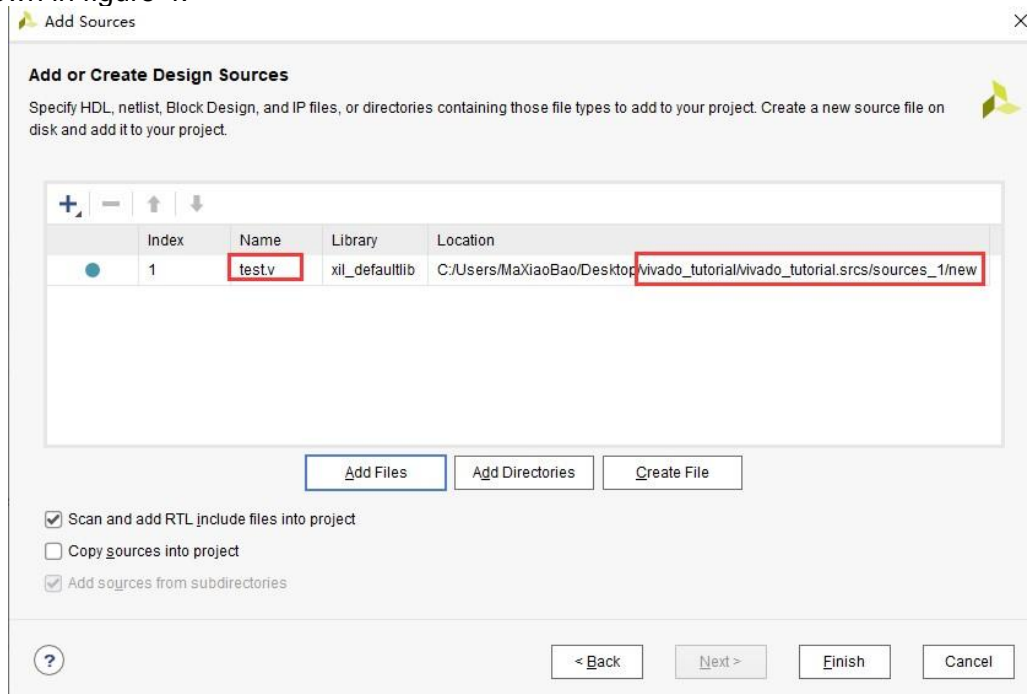

Figure 4.
1. Here, we add RTL files directly. Select **Add Files** and add file **test.v** in your directory, as shown in figure 4.